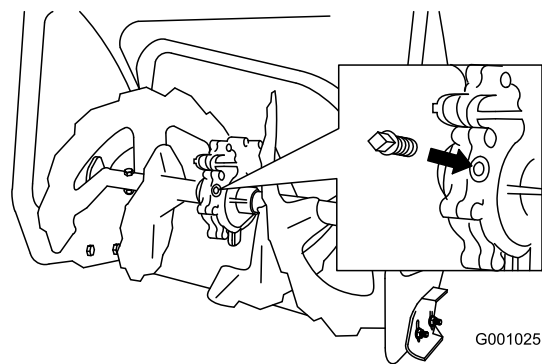

Figure 39
2. Clean the area around the pipe plug (Figure 39).